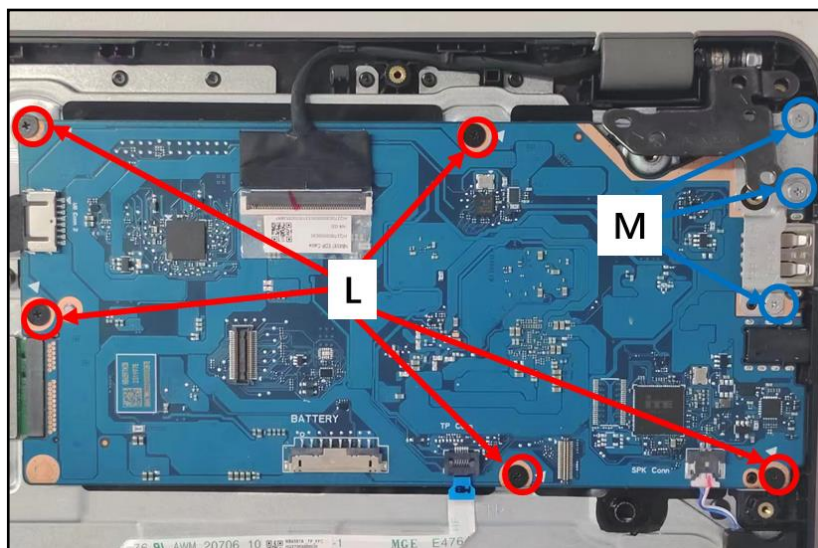

Figure 3-38. Mainboard Removal
9. Remove seven (5) screws (L) and three (3) screws (M) securing the mainboard and I/O bracket (Figure 3-38).